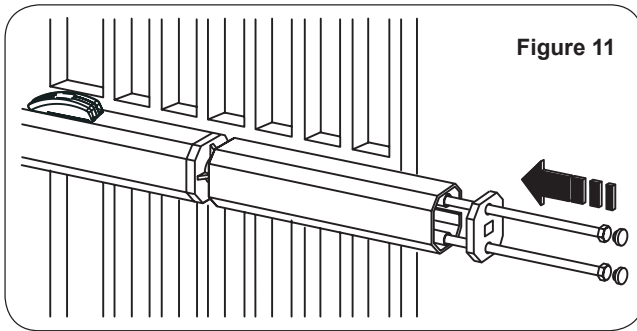

Figure 11
- 13.) Prepare the protective housing and fit it on the operator as shown in Fig. 11. Fit the electric cable strain relief (Fig. 12, Ref. 3).